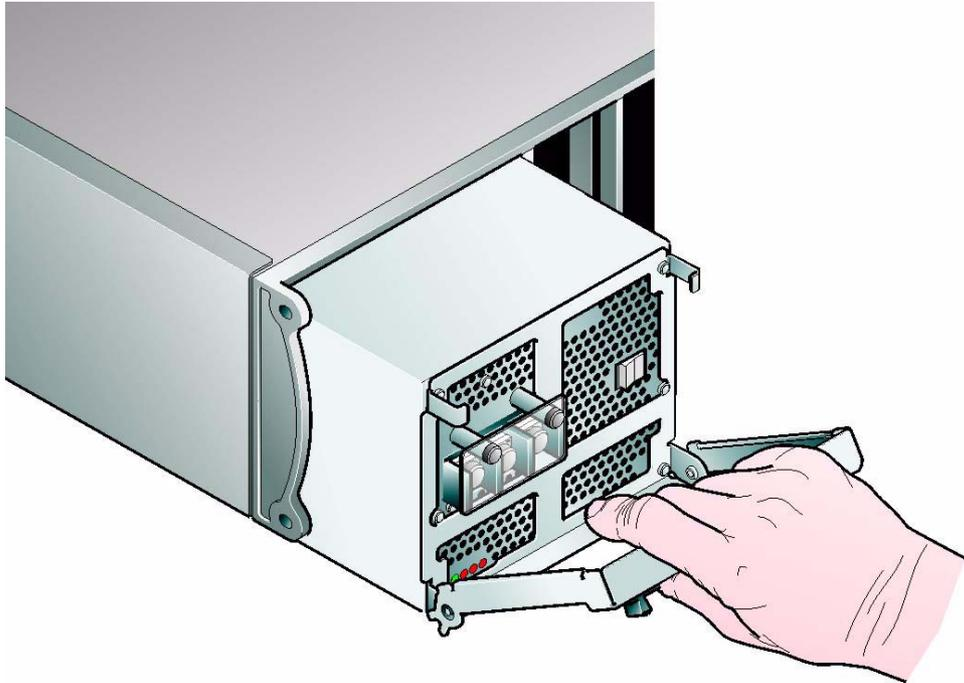

Figure 4-6 Removing/Inserting a -48V Power Supply/Cooling Module (3)
- 3 Cam the module home by manually closing the PSU handle (see Figure 4-6). A click should be heard as the handle latches engage (see Figure 4-40).